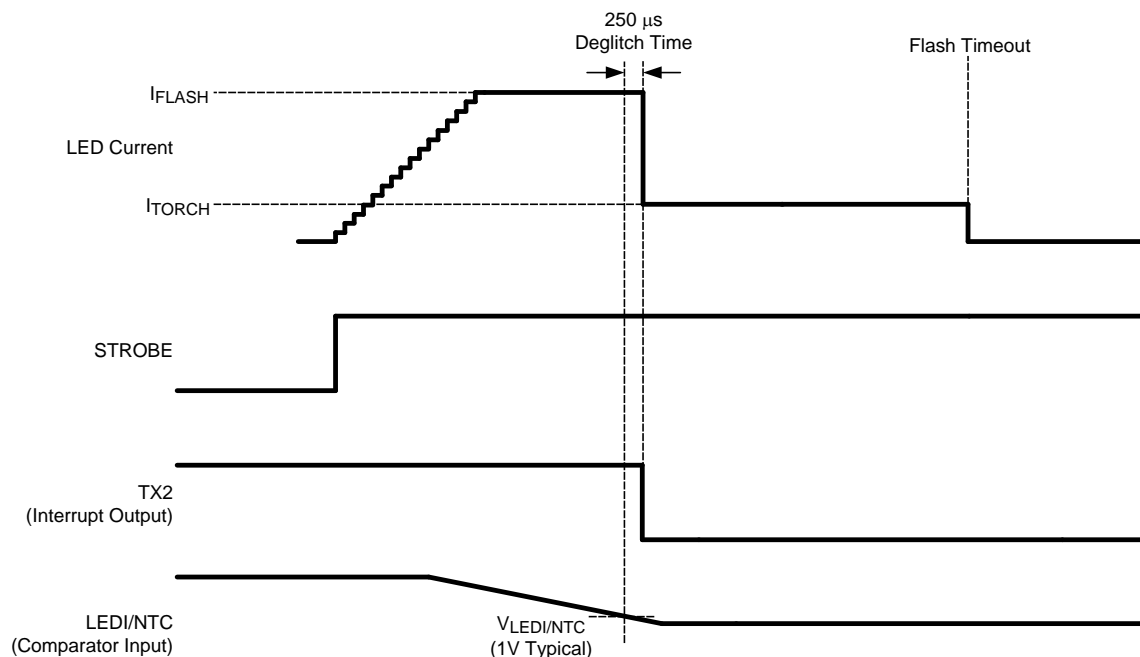

Figure 37. TX2 as an Interrupt Output (During an NTC Event)
3. The LM3559 is configured for V_{IN} flash monitor mode (VIN Monitor Register bit [3] = 1) and V_{IN} falls below the programmed V_{IN} flash monitor threshold. Figure 37 shows the functionality of the TX2/INT/GPIO2 input.